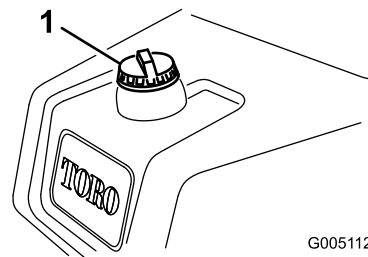

Figure 24
1. Clean around the fuel tank cap (Figure 24).